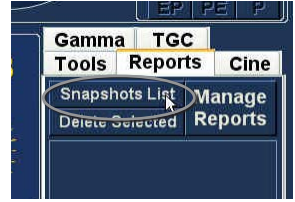

Figure 7.3 - Selecting Snapshot List
1. Click on "Snapshots List" as shown in Figure 7.3.